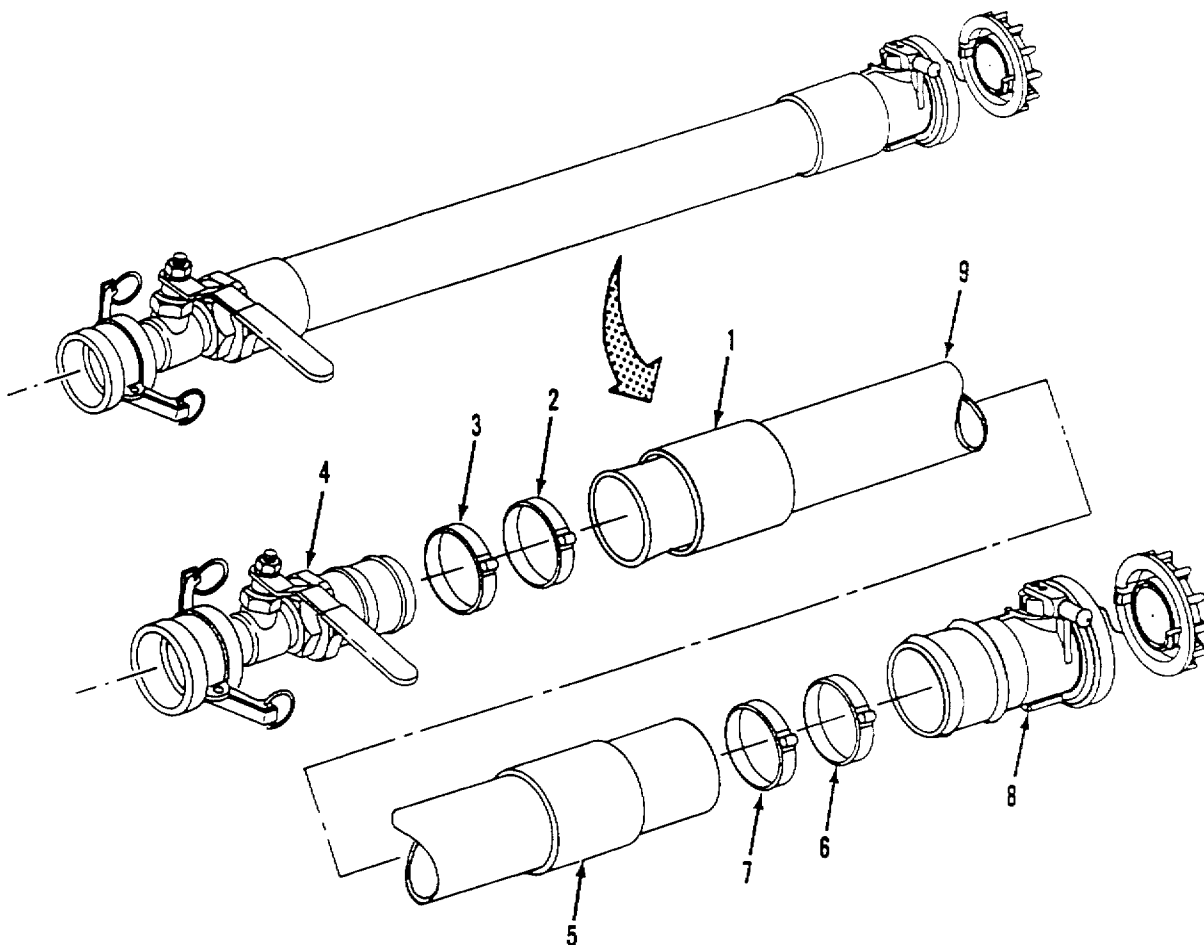
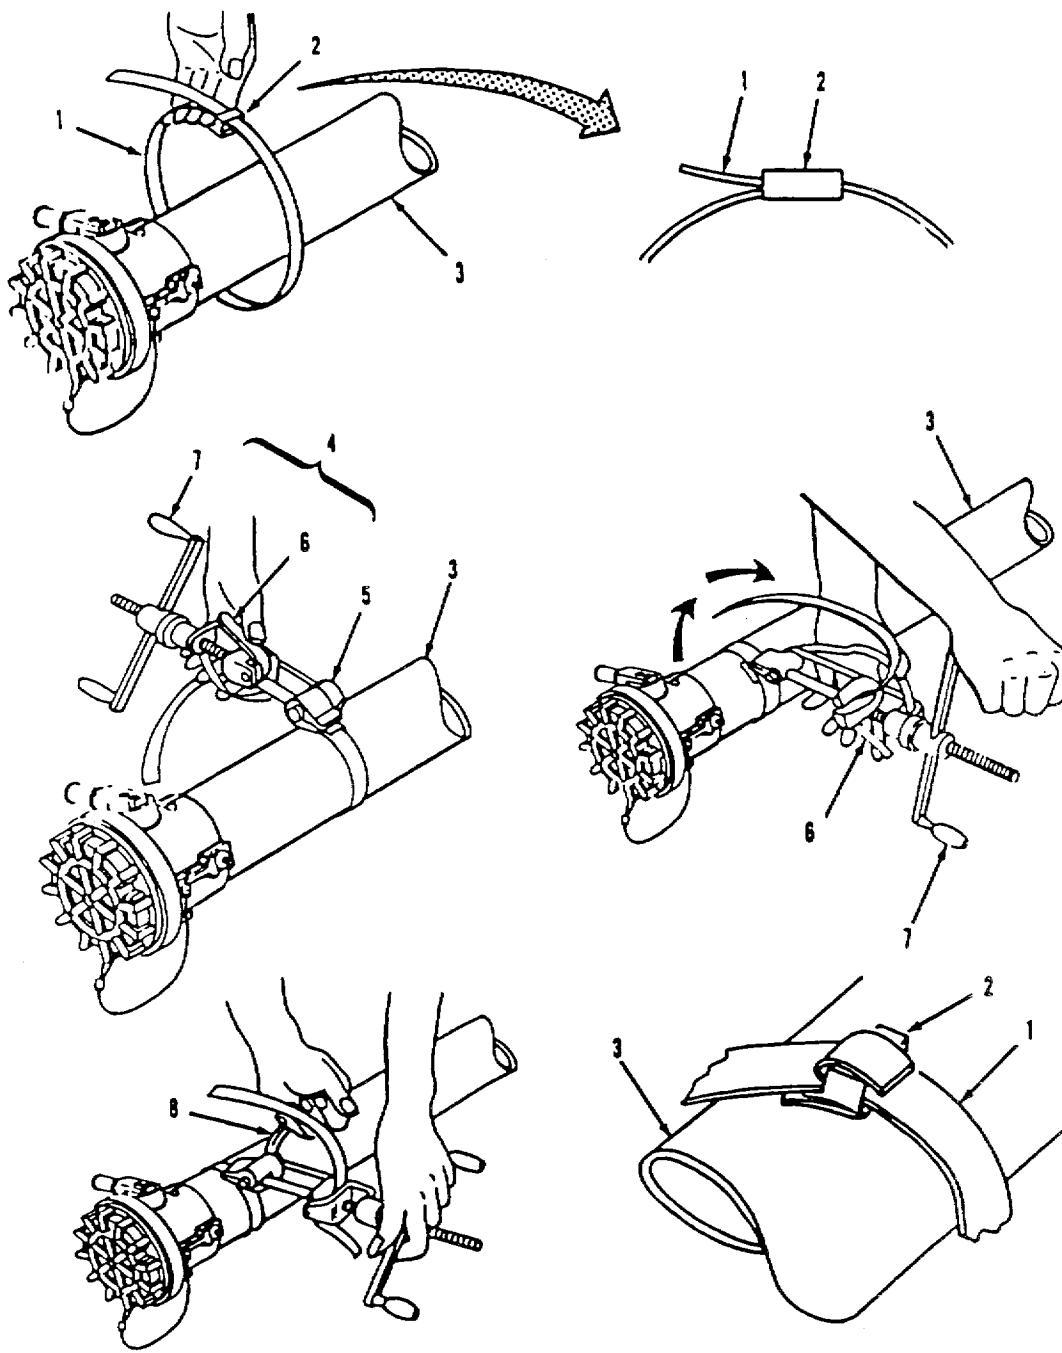

Figure 4-17. 3-inch Fuel Hose Assembly.
Figure 4-18. 3-Inch Fuel Hose Clamp Installation.
4-21. 3-INCH FUEL HOSE ASSEMBLY HOSE REPAIR -CONT.c. Inspection. Refer to figure 4-17.
- (1) Replace damaged components and all mandatory replacement parts.
- (2) Repair ball valve assembly (para 4-22).
- (3) Repair valved dry break coupling assembly (para 4-18).
e. Assembly. Refer to figure 4-17.
- (1) Slide sleeve (5) onto hose (9) and position it about 12 inches back from end of hose.
- (2) Fold ends of grounding wires into hose (9).
- (3) Push valved dry break coupling assembly (8) into end of hose (9).
- (4) Slide sleeve (1) onto hose (9) and position it about 12 inches back from end of hose.
- (5) Push ball valve assembly (4) into end of hose (9).
- (6) Perform continuity test between ball valve assembly (4) and valved dry break coupling (8) to ensure ground wires are firmly seated. Continuity must exist.
- (7) Wrap end of clamp (1, figure 4-18) around hose (3) and through seal (2). Position clamp about 1-inch from end of hose.
- (8) Wrap another loop of clamp (1) around hose (3) and through seal (2).
- (9) Position tag end of clamp (1) in slots of clamping tool (4). Tool nose (5) should fit snug against seal (2).
- (10) Apply pressure to gripper lever (6) and turn handle (7) until clamp (1) is snug. Tool will lock in place when correct tension is applied. Reposition tool as required.
- (12) While reversing handle (7) 3/4 turn, roll tool (4) to opposite side of seal (2). (This will bend strapping and prevent it from slipping through seal when tool is removed.)
- (13) Pull cutting handle (8) on tool to cut strapping (1).
- (14) Remove tool (4) while holding strapping stub down on seal (2) with thumb.
- (15) Clinch end of clamp (1) by hammering down tag end clamp over seal (2).
- (16) Repeat steps (7) through (15) for three remaining clamps (2,3, and 7, figure 4-17). Clamps should be 1 inch from end of hose and 2 inches apart.
- (17) Slide sleeve (5) over clamps (6 and 7).
- (18) Slide sleeve (1) over clamps (2 and 3).
- (19) Install hose assembly in fuel system (para 3-4b).
- (20) Start up fuel system (para 2-12g) and test repaired hose for leaks.